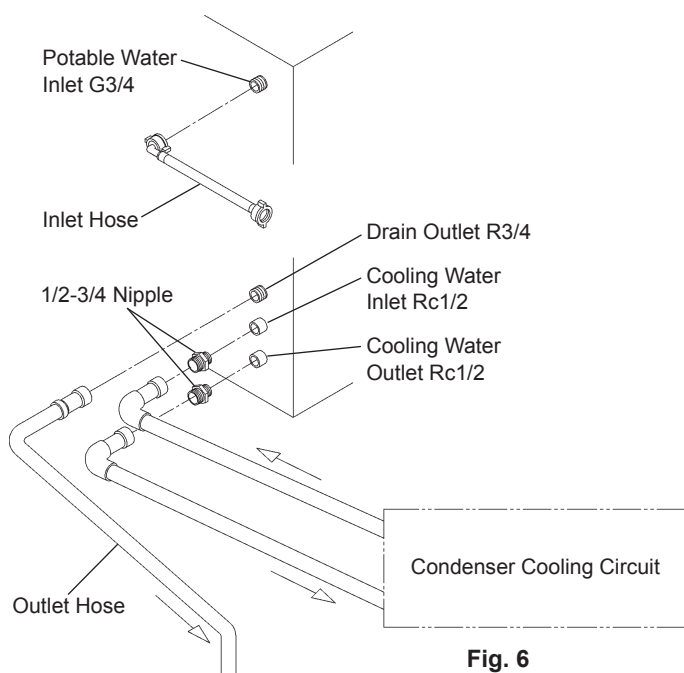

Fig. 6
- * Hoshizaki recommends that the water-cooled Condenser should be connected to a closed circuit recirculating type cooling system utilizing a tower, water chiller or similar (see Fig. 6 and 7). Water make up should be via a ball valve/break tank arrangement.
[a] Standard connections according to WRC regulations in U.K. (Fig. 6 and 7)
5) Connect the Condenser cooling circuit to the free ends of 1/2-3/4 nipples as indicated (Fig. 6), using a suitable rigid type pipe. P.T.F.E. tape and/or a suitable sealing compound should be used to obtain a leak free joint.